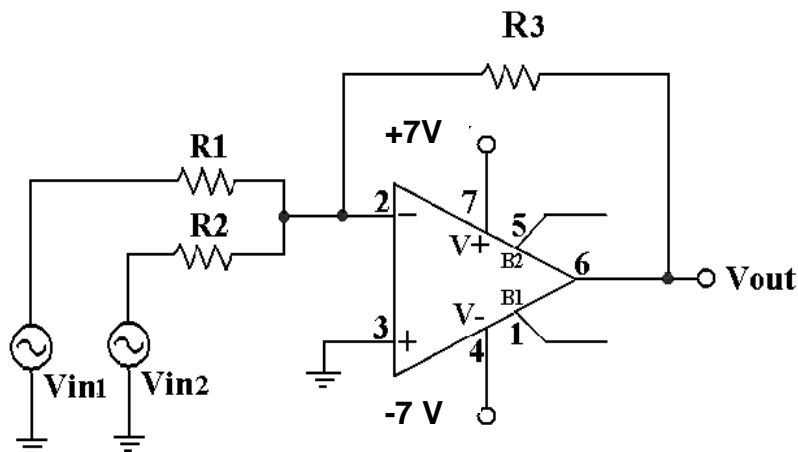

Fig 1. Summing amplifier circuit
*Summing Amplifier:* An inverting amplifier can be modified to accommodate multiple input signals as shown in Fig. 1. Since the circuit is linear, the output voltage can easily be found applying the superposition principle: the output voltage is a weighted sum of the two input signals. The weighting factor is determined by applying one of the input signals while the others are grounded, and analyzing the resulting circuit. Since the circuit is linear, the analysis is repeated for all inputs and the final result is the addition of all components. The advantage of this approach is that we can easily recognize the effect of each signal on the circuit's performance and the overall output can be obtained in most of the cases by inspection. For the circuit shown below, the following equation results: